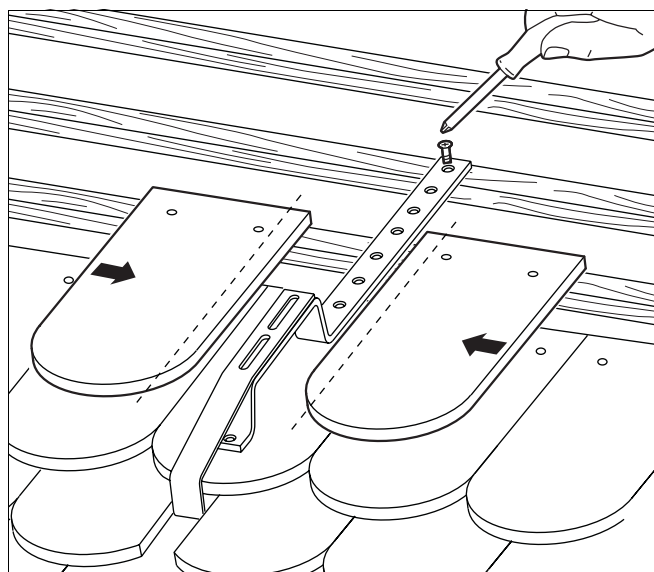

Fig. 29 Cutting and installing crown tiles
- Cut the adjacent crown tiles (Fig. 29) and fasten them to the building.